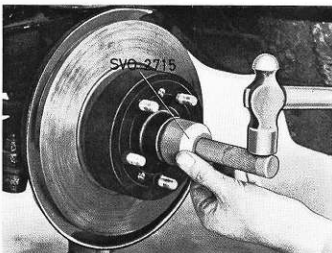

Fig. 7-19. Removing grease cap
4. Remove the grease cap with tool 2715 (Fig. 7-19). Remove the split pin and castle nut.